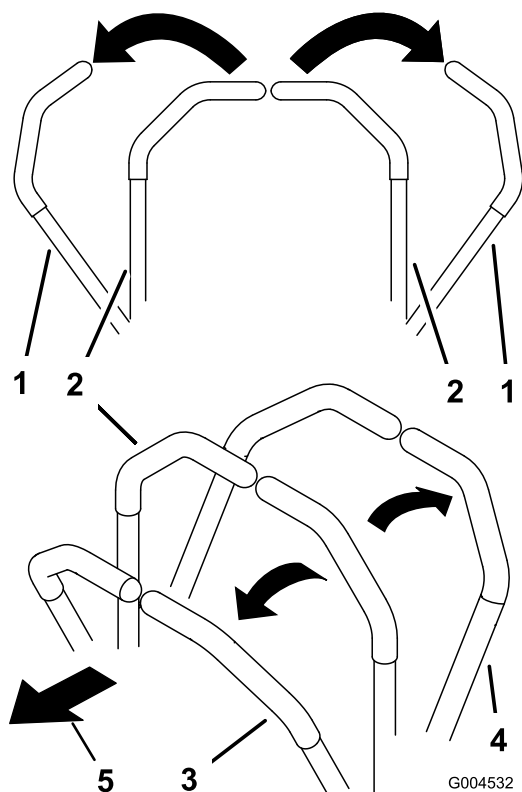

Figure 17
1. Move the motion control levers (Figure 17) out to the neutral locked position.
- To go straight forward, slowly push the motion control levers forward (Figure 17).
- To go Straight backward, slowly pull the motion control levers rearward (Figure 17).
on the opposite side from which you want to turn (Figure 17).